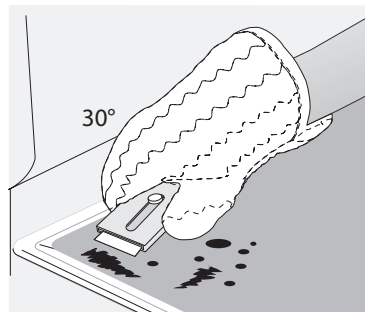

Figure 14: Cooktop cleaning
2. Hold the oven door at the same angle as the removal position (Figure 14) Carefully insert the hinge levers into the oven frame until you feel the hinge levers are seated into the hinge notches. The hinge arms must be fully seated into the hinge notches before the oven door can be fully opened.